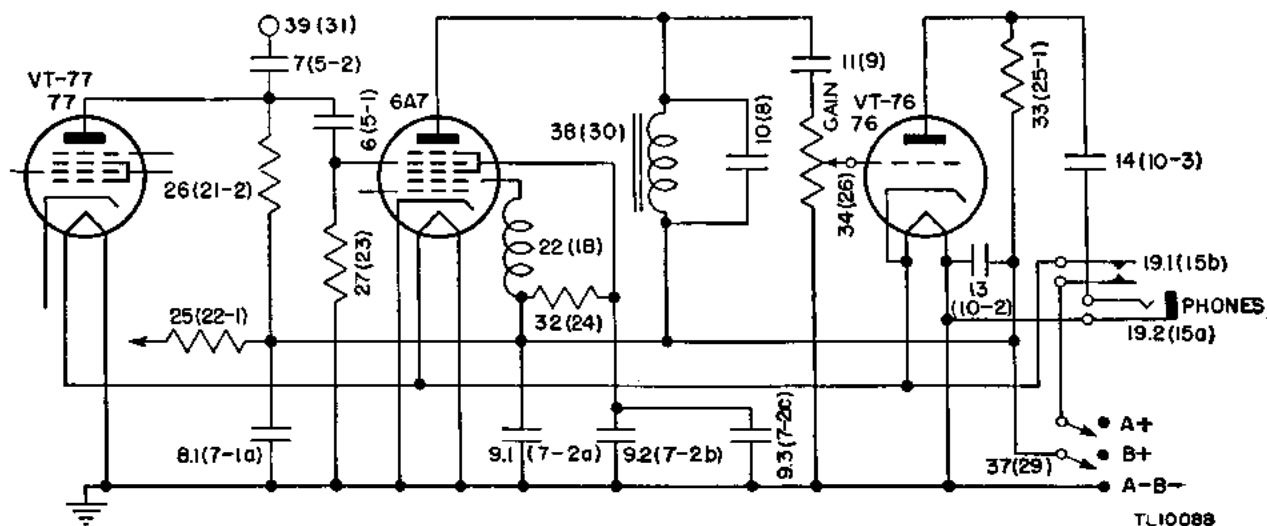

Figure 30. Frequency Meter BC-221-1, functional diagram, detector and audio-amplifier circuits.
(2) At the CRYSTAL ON position, the output of oscillator Tube VT-77 is applied to one of the grids of detector-converter tube 6A7 where it is mixed with the output frequency of the crystal circuit. The result is a frequency equal to the difference of the two and is used to adjust the frequency of the oscillator with the CORRECTOR control.
(3) At the CRYSTAL OFF position, the variable frequency oscillator is in operation, while the crystal oscillator is not. If the antenna is in position, the frequency meter may be used to receive or send any frequency in its range; that is, it may be used as a radio receiver or transmitter.
It has been stated that the three inner elements of the type 6A7 tube are used in the crystal oscillator circuit. The remaining elements of this tube (comprising the control grid, screen grid, and plate) are used as a high gain screen grid detector to which, by tube structure, the crystal oscillator is electronically coupled. (See fig. 30.) The r-f voltage, developed across load resistor 26 (21-2) in the plate output circuit of the variable frequency oscillator, is coupled to the control grid of this detector through a small fixed capacitor 6 (5-1). Antenna plug 39 (31), mounted on the chassis, is also coupled to the control grid of the detector, through coupling capacitors 7 (5-2) and 6 (5-1) in series. Resistor 27 (23) is the detector tube grid leak. As a result of these couplings to the control grid, the detector mixes the variable frequency oscillator output with the fundamental and successive harmonics of the crystal oscillator, when the CRYSTAL switch is in the ON position and with the radio transmitter frequency to be measured, when the CRYSTAL switch is in the OFF position. When the CRYSTAL switch is thrown to the OFF position, crystal 23 (19) and its shunt resistor 31 (21-3) are short-circuited and the inner grid